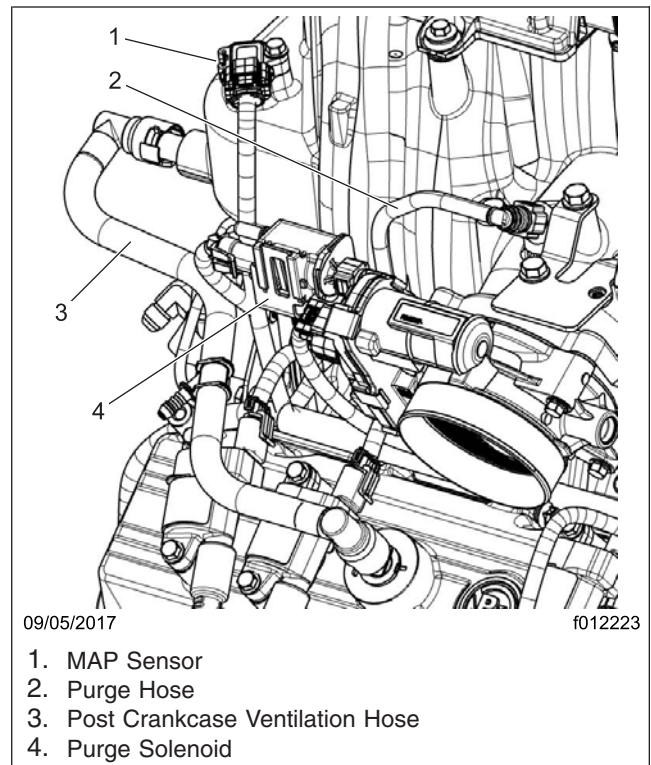

Fig. 6, Upper Intake Manifold Components
17. Disconnect the electrical connector from the MAP sensor (rear right-hand corner of the upper intake). See Fig. 6. Gently pry the blue tab away from the connector body to unlock it.
26. Remove the purge hose from the upper intake manifold. See Fig. 6.